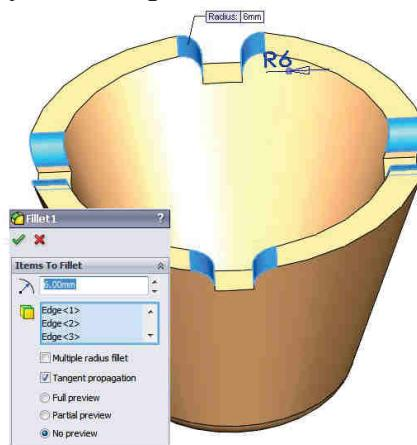

Fig. 1.33
Asupra entității **Cut-Extrude1** se vor aplica racordările cu raza R6, fig. 1.33.
- Selectie 8 muchii din fig. 1.33.
The fillet with R6 radius will be applied to the **Cut-Extrude1** feature, fig. 1.33.
- Select the 8 edges from fig. 1.33.